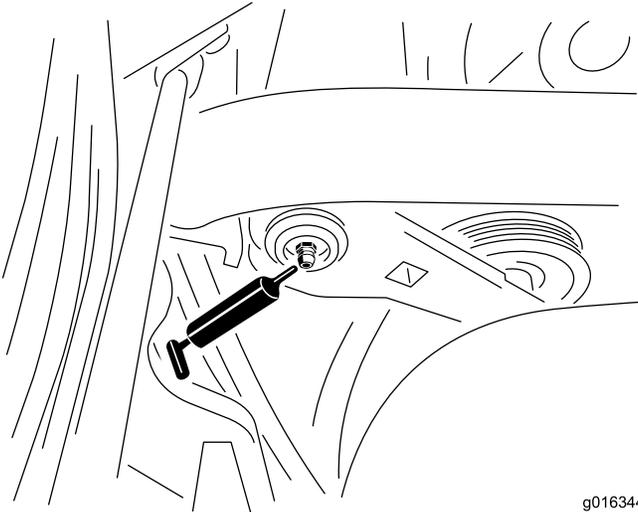

Figure 36
1. Wipe the grease fitting clean so that you do not force foreign matter into the bearing or bushing (Figure 36).